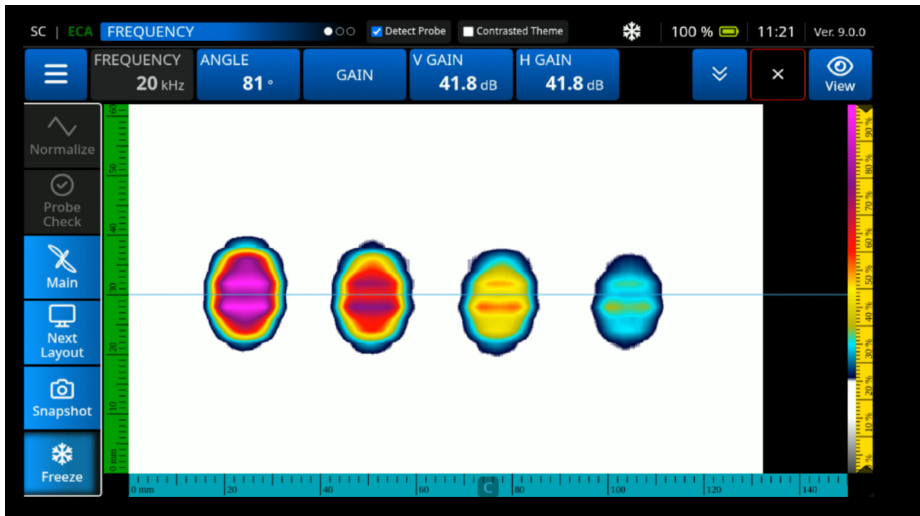

Figure 4-50 Confirm the Readings
- Scan across the reference standard and confirm that you acquire good readings (See Figure 4-50 on page 156).